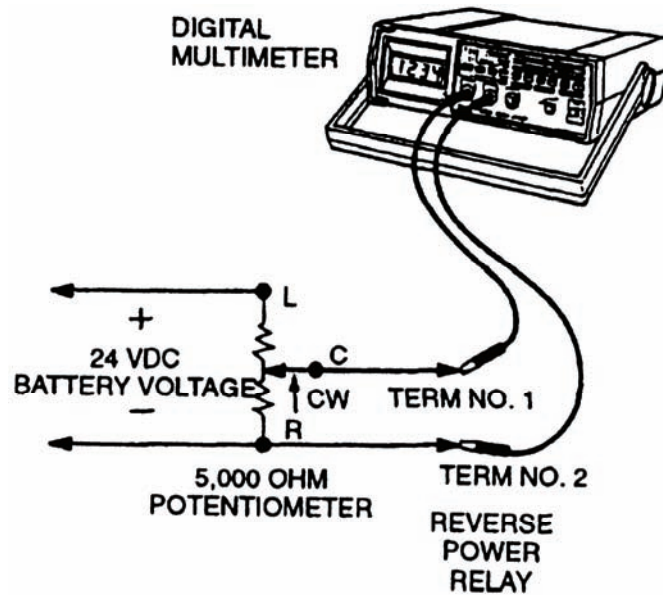

Figure 2-17. Reverse Power Relay Test Setup.
- f. Set up a test circuit (Figure 2-17). Connect 24 VDC source to terminals L and R of potentiometer. Connect a wire between terminal C of potentiometer and terminal 1 of reverse power relay. Connect a second wire between terminal R of potentiometer and terminal 2 of reverse power relay. Set multimeter for DC volts and connect positive lead of multimeter to terminal 1 and negative lead to terminal 2 of reverse power relay.